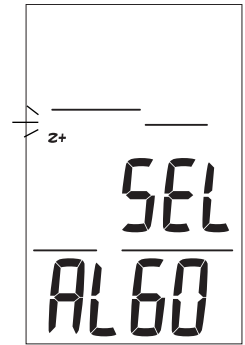

Fig. 32 - Set ALGORITHM
**Set Algorithm**, information includes (Fig. 32):